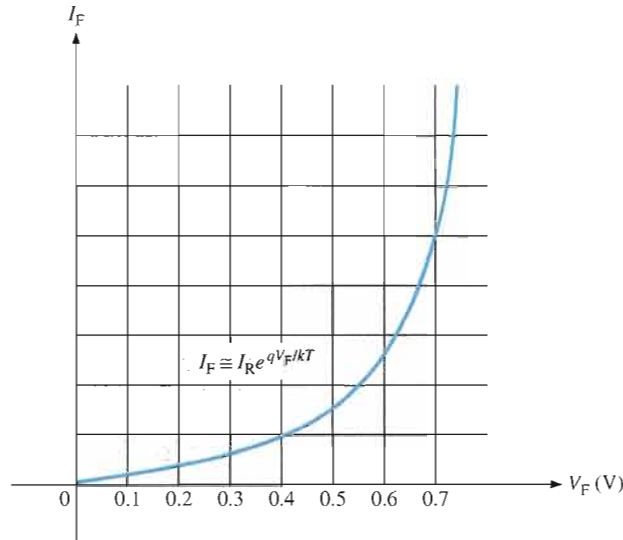

FIGURE 14–26
The semiconductor pn junction in the form of either a diode or the base-emitter junction of a BJT provides a logarithmic characteristic. You may recall that a diode has a nonlinear characteristic up to a forward voltage of approximately 0.7 V. Figure 14–26 shows the characteristic curve, where V_F is the forward diode voltage and I_F is the forward diode current.
Log Amplifier with a Diode When you place a diode in the feedback loop of an op-amp circuit, as shown in Figure 14–27, you have a basic log amplifier. Since the inverting input is at virtual ground (0 V), the output is at $-V_F$ when the input is positive. Since V_F is logarithmic, so is V_{out} . The output is limited to a maximum value of approximately -0.7 V because the diode's logarithmic characteristic is restricted to voltages below 0.7 V. Also, the input must be positive when the diode is connected in the direction shown in the figure. To handle negative inputs, you must turn the diode around.
► **FIGURE 14–27**
An analysis of the circuit in Figure 14–27 is as follows, beginning with the facts that $V_{out} = -V_F$ and $I_F = I_{in}$ because there is no current at the inverting input.
Determine the output voltage for the log amplifier in Figure 14–28. Assume $I_R = 50$ nA.